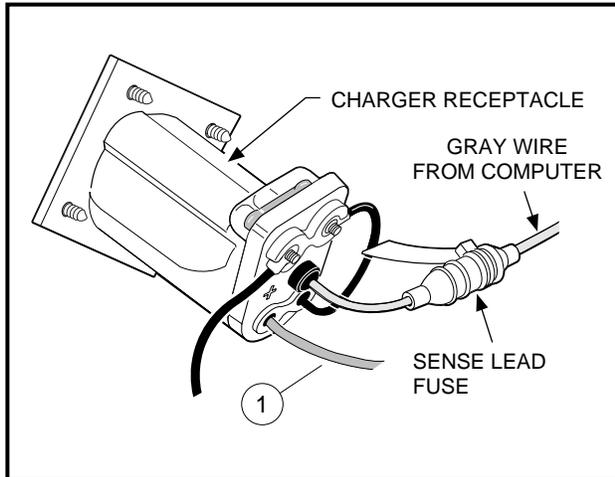

Figure 14-11 Receptacle Wire Connections
- 3.2. Make sure the two nuts that secure the two 10 gauge black wires to the receptacle fuse assembly are tight (**Figure 14-11, Page 14-13**).